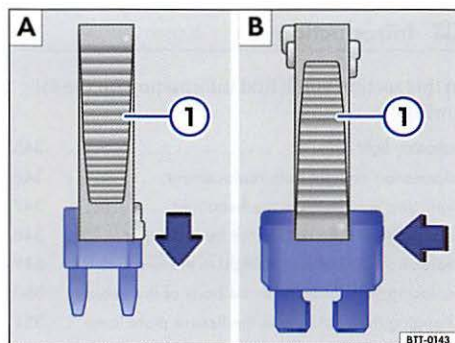

Fig. 191 Removing or inserting a fuse.
- For *small fuses*, slide the clamp onto the fuse from the top $\Rightarrow$ fig. 191 .